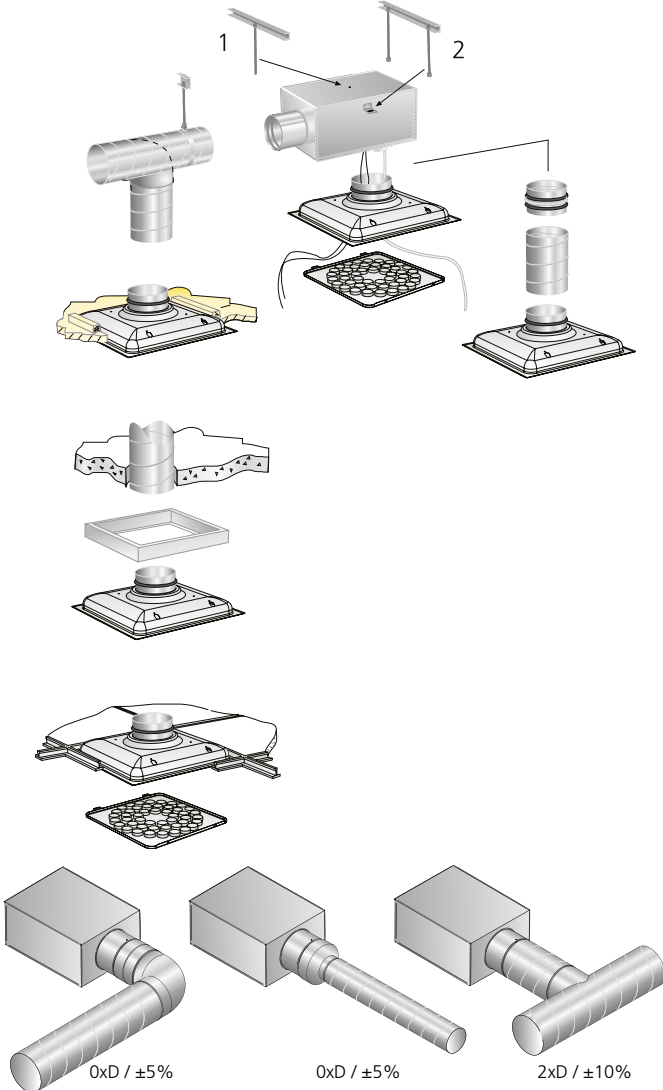

Figure 3. Installation options for the ALS commissioning box. See the REACT ALS product sheet for installation options with active commissioning box.
- The distance between the commissioning box and the air diffuser can be increased up to 500 mm with a circular duct, without having to lengthen the measuring tubes and damper adjustment cords. See figure 3.
- Measurement accuracy and straight section requirement before commissioning box. See Figure 3.
- Figure 3 shows a bend, a change in dimension and T-piece.